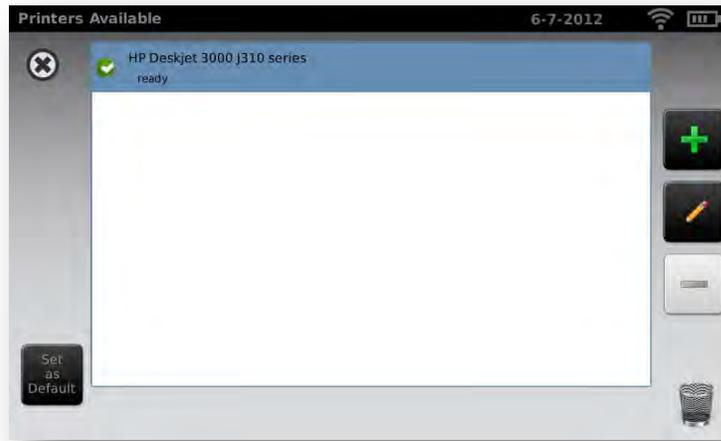

Figure 13
2. The next screen will list the available printers on the vision screener. This is a list of all printers already added to the vision screener. (*Figure 13*).
1. From the “Printers Available” screen, select the plus sign  to add a printer. (Figure 13).
- Return to the Printers Available screen (Figure 13) and be sure to highlight the desired installed printer and set it as the default by selecting the "Set as Default" button.